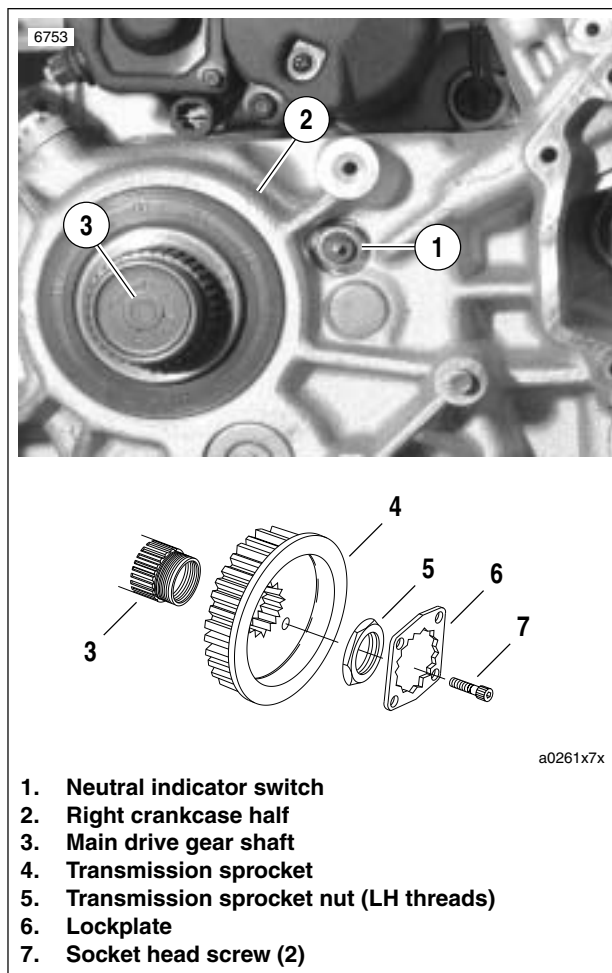

Figure 7-77. Neutral Indicator Switch
See Figure 7-77. The neutral indicator switch (1) is threaded into the transmission portion of the right crankcase half (2); it is immediately forward of the main drive gear shaft (3). The sprocket cover must be removed to test the switch. If switch requires replacement, secondary drive belt and transmission sprocket must also be removed; there is not enough clearance to allow the removal of the switch without first removing the transmission sprocket.
3. See Figure 7-77. Place transmission in first gear. Remove two socket head screws (7) and lockplate (6).
4. See Figure 7-77. Remove transmission sprocket nut (5) from main drive gear shaft (3).
5. Remove transmission sprocket (4) (with secondary drive belt) from main drive gear shaft (3).
6. Remove wire lead from neutral indicator switch (1). Remove switch from right crankcase half (2).
- a. Apply a light coating of LOCTITE THREADLOCKER 243 (blue) to **new** neutral indicator switch (1) threads.
8. Install transmission sprocket (4) (with secondary drive belt) onto main drive gear shaft (3). See 6.14 TRANSMISSION SPROCKET.